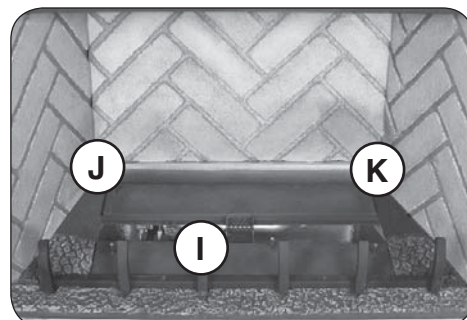

Fig. 30-5 Grate, left/right floor panel
13. Re-install the grate in between the front burner and front floor panel. Use the two existing screws and a Phillips screwdriver. See Fig. 30-5, "I".
14. Install the left and right floor panels on each side of the burner assembly. See Fig. 30-5, "J" and "K".